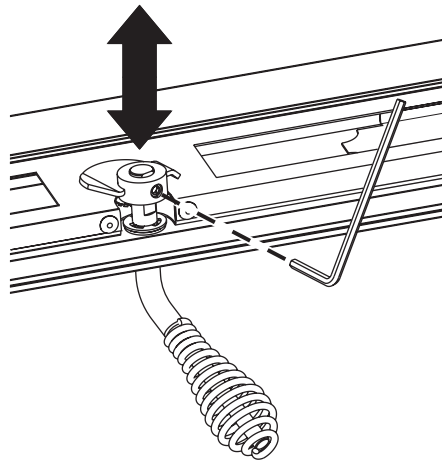

Figure 5
3. Slide the pawl in or out on the shaft to adjust for the proper tension when the door is closed. Retighten set screw. See Figure 5.